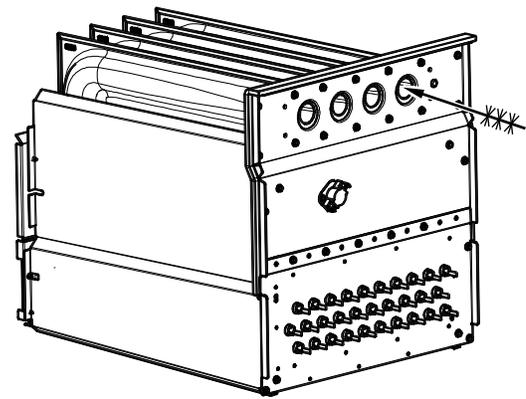

Fig. 70 – Cleaning Heat Exchanger Cell
7. Clean heat exchanger openings with a vacuum and a soft brush. See Fig. 70.